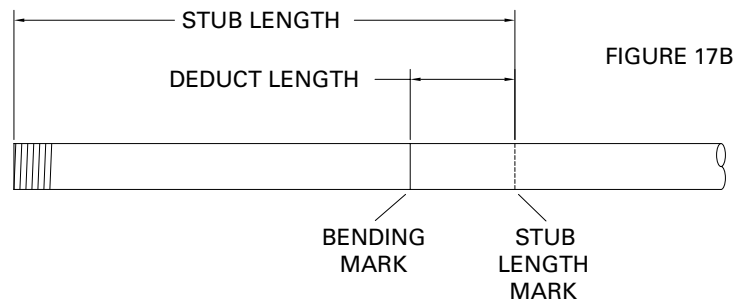

FIGURE 17B
2. From the end of the conduit, measure and mark the desired stub length on the conduit (stub length mark). See Figure 17B.
3. Subtract "deduct length" from the stub length mark and make a second mark (bending mark). See Figure 17B.